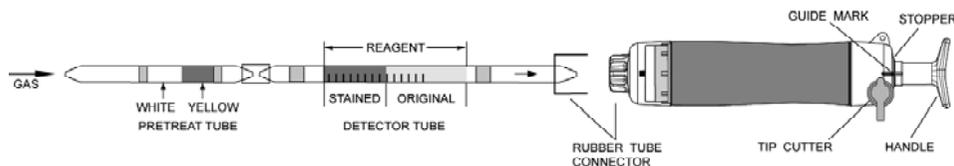

Fig.1
- ① Break both ends of the detector tube and pretreat tube, and connect each end of the detector tube and pretreat tube with rubber tube connector as shown in Fig.1.
- ② Insert the detector tube into aspirating pump securely as shown in Fig.1 (Arrow mark shall point to the pump.)
- ③ Align the guide marks on the shaft and stopper of the aspirating pump.
- ④ Pull the pump handle at full stroke locked position and wait for 1.5 minutes or until the completion of sampling is confirmed with the flow indicator of the pump (See descriptions about the flow indicator in the instruction manual of the pump).
- ⑤ Turn the handle right or left by 1/4 (90°), push it toward to the pump without removing the detector tube from the pump inlet and then repeat the step ④ once again.
- ⑥ On completion of sampling, read the scale at the maximum point of the stained layer.
- ⑦ In case that the concentration is below 0.2 ppm, turn the handle right or left by 1/4 (90°), push it toward to the pump without removing the detector tube from the pump inlet and then repeat the step ④ once again.
- ⑧ On completion of the sampling, read the scale at the maximum point of the stained layer and multiply the reading value after temperature correction undermentioned, by 1/2.
- ⑨ If the discolouration is over the scale, change the detector tube and pre-treat tube, and do the 1 pump stroke procedure as following.